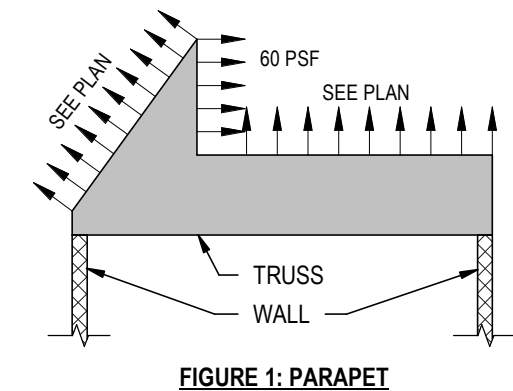
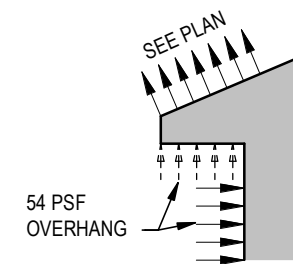

FIGURE 1: PARAPET
FIGURE 2: OVERHANG
- REFERENCE FIGURE 1 FOR MANSARD ROOF PRESSURES; REFERENCE FIGURE 2 FOR OVERHANGS.